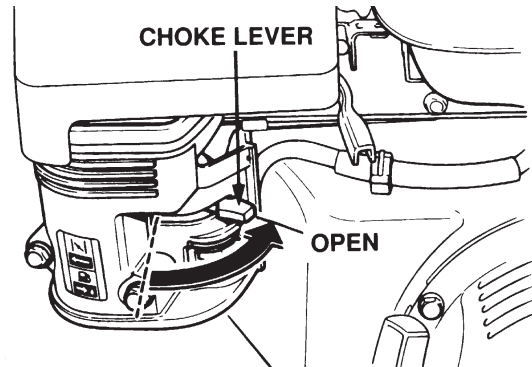

Figure 26. Choke Lever (Open Position)
7. If operating the SP2 CE in **cold weather conditions**, skip this step and proceed to step 8. Place the **Choke Lever** (Figure 26) in the **OPEN** position. Skip to step 9.